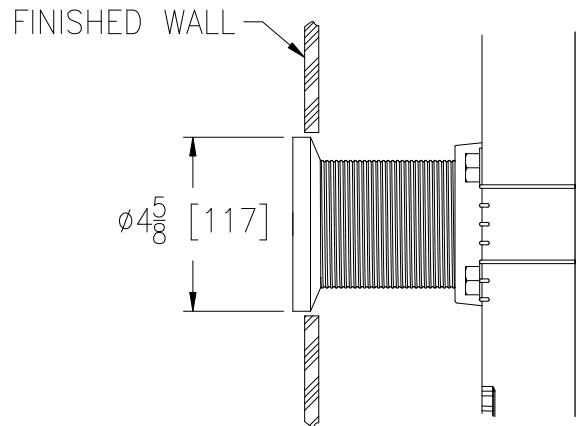

Fig. 14
14. Finished wall should be installed. Ensure appropriate size opening is made for coupling. For EZ-Set™ Coupling hole sizing See Fig. 14